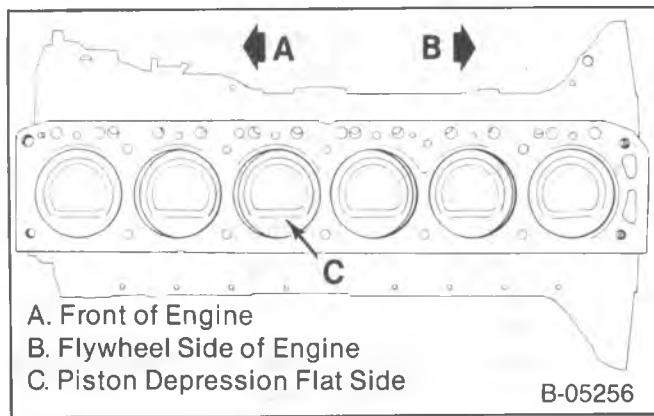

Figure 56—Pistons Installed
- The piston must be installed so that the piston crown depression's flat side faces to the engine's left side (figure 56).